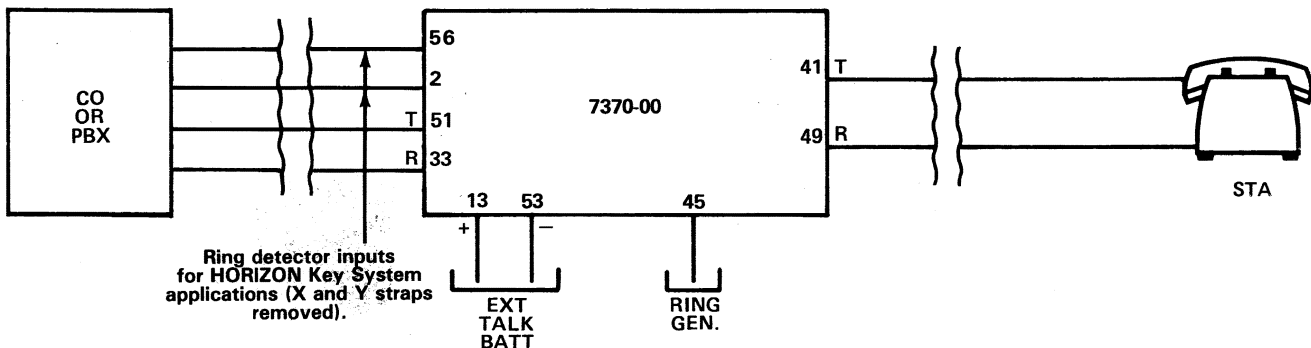

Figure 2. 7370-00 2W Application
2.01 The 7370-00 can be used alone, as shown in Figure 2, or it can be combined with a separate transmission unit such as the